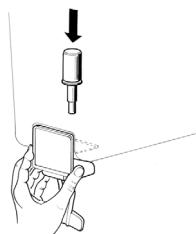

figure 6
**3 Gravity faucet:** install the faucet handle and the piston with its gasket (see figure 6).